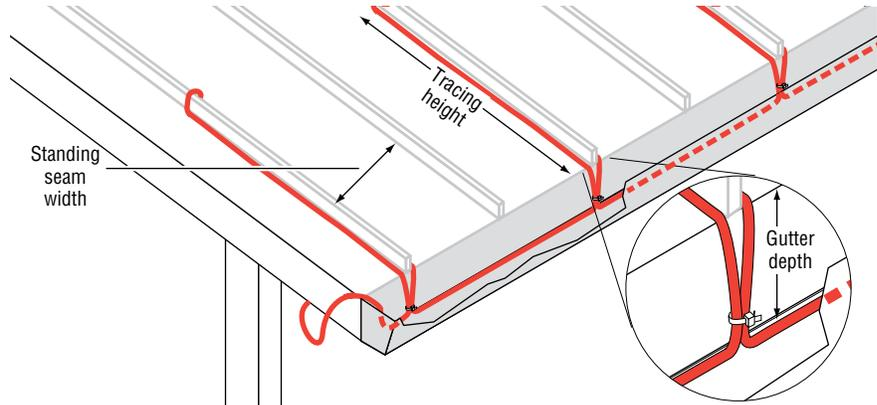

Figure 1.4 Layout on a standing seam roof.
For sloped standing-seam metal roofs, ice dams may form at the roof edge. To maintain a continuous path for melt water to run off, route the heating cable along the seams as shown in Figure 1.4 and follow the attachment recommendations in Step 2. Additional heating cable may be needed for downspouts and valleys.
**Note:** Attachment methods are purposely not shown in Figure 1.4. For attachment methods, proceed to Step 2 (page 10).
- Run the heating cable up one side of the seam, loop it over to the other side, and return it to the bottom of the gutter. Continue along the bottom of the gutter to the third seam and repeat the process (see Figure 1.4). If the metal roof panels are more than 24 inches wide, trace every seam along the roof edge.
**Note:** For large commercial building with standing seam roofs contact Tyco Thermal Controls at (800) 545-6258.